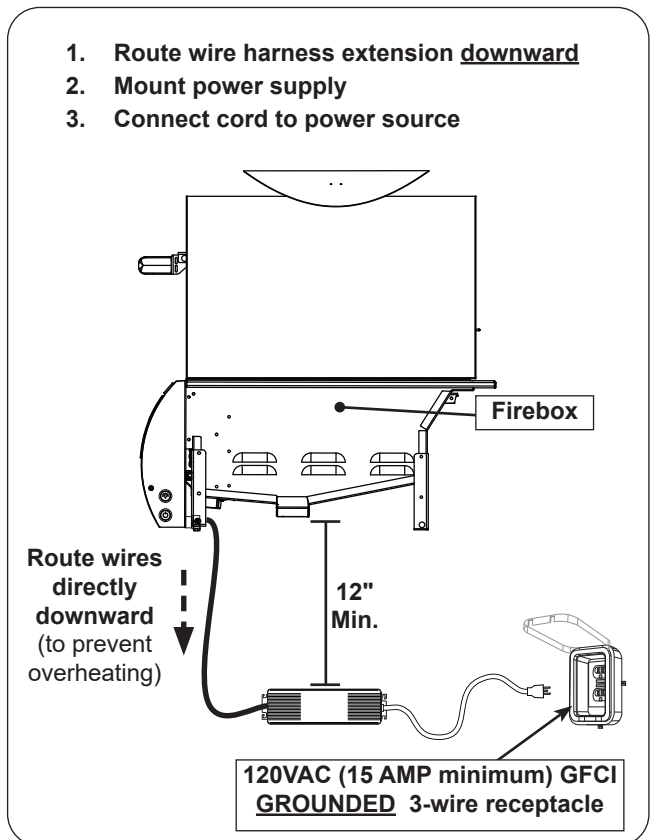

Fig. 28-2 Mount power supply
1. Ensure the wire harness extension is routed directly downward. This will prevent overheating. **DO NOT** route the harness below the unit firebox. See Fig. 28-2.
- located at least **12"** below the bottom of the unit (see Fig. 28-2)
3. Connect the power cord to a **120VAC (15AMP minimum) GFCI GROUNDED three-wire receptacle** (see Fig. 28-2). The GFCI receptacle must be a WEATHER-PROOF IN-USE COVERED RECEPTACLE.